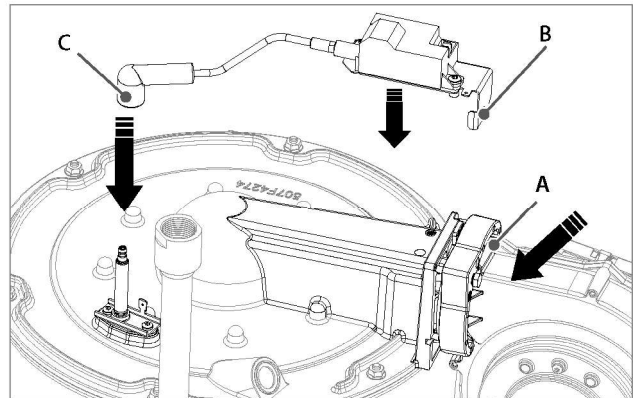
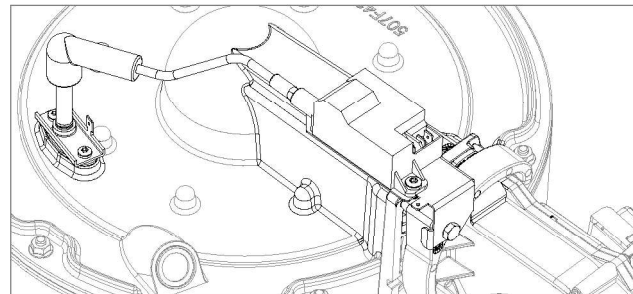
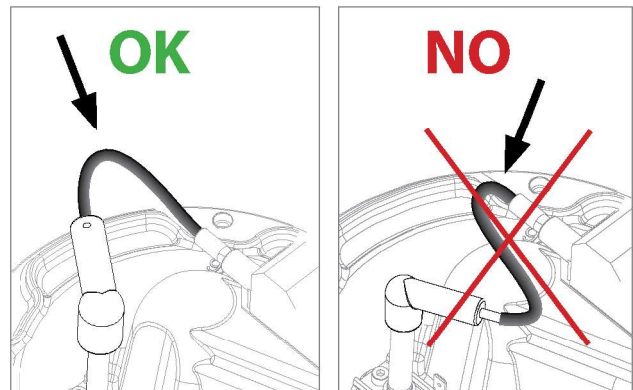

Fig. 6 - Prestige Solo & Excellence - Spark Generator Installation
Fig. 7 - Prestige Solo 155 to 399 - Igniter Kit Installed
Fig. 8 - Prestige Solo & Excellence - Igniter Cable Installation
4. Remove the blower clamp screw (A). Retain for reinstallation. (See Fig. 6).
5. Locate the spark generator with bracket (B) on the blower clamp (A), aligning bracket hole with blower clamp hole. (See Fig. 6).
6. Reinstall the blower clamp screw (A) to secure the spark generator bracket to the blower clamp. Torque screw between 62 and 71 lbf-in.
7. Install the igniter cable boot so that the cable is smooth with no sharp bends and doesn't curl on itself. See Fig. 7 & Fig. 8.
8. Connect the spark generator connector (C) to the new igniter.